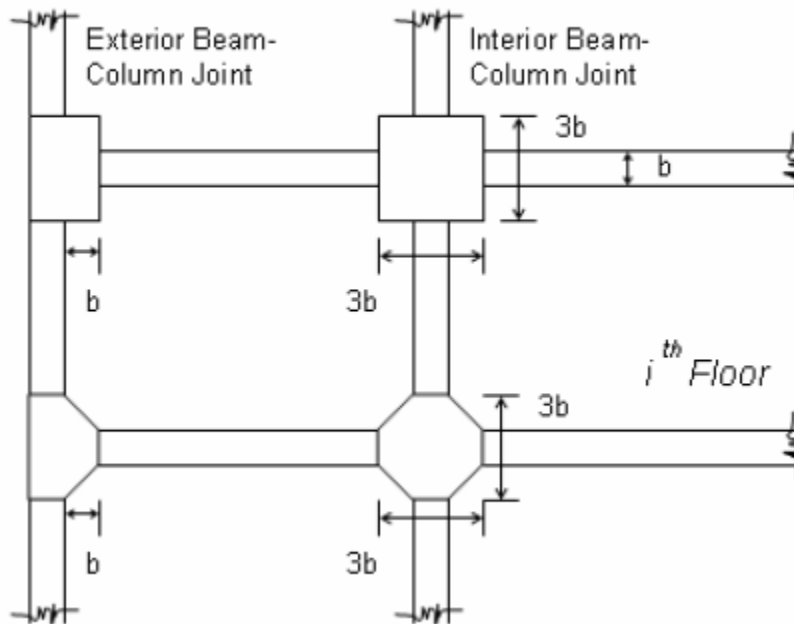

Figure 1. Moment frame connections
- 3.2.7 The height and length of moment frame connections shall not exceed 3 times the maximum cross-section dimension of the members as shown in Figure 1.